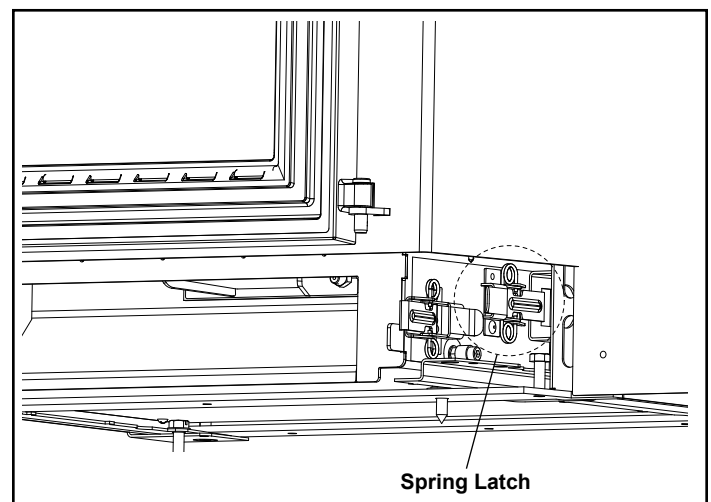

Figure 3.8
5. Release the right and left side spring latches and slide the insert body out onto the hearth or onto the service rail kit, if purchased. Figure 3.8.